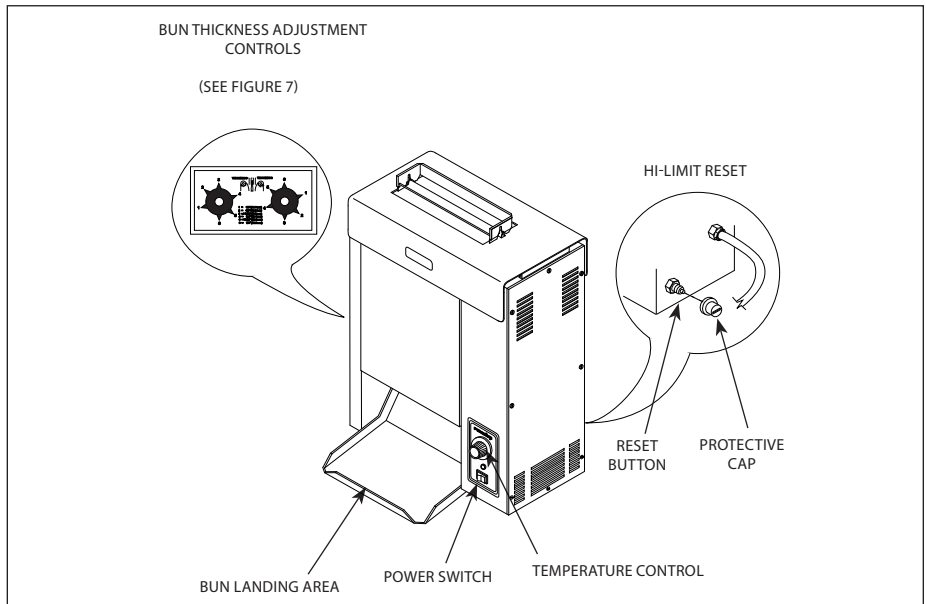

Figure 6. Toaster Controls
2. Turn the power on (Figure 6).
5. Toasted product will drop into the bun landing area (Figure 6).
A Hi-Limit Control turns off electrical power to the heater if the unit overheats. To reset this control, allow 10-15 minutes for the unit to cool down, Remove the Protective Cap, and fully press the Reset Button located at the rear of the unit (Figure 6).